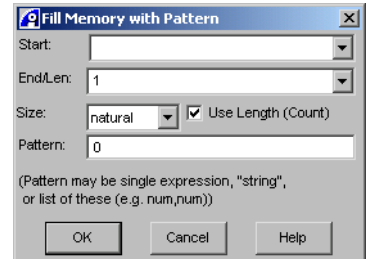

Figure 7-4 Fill Memory with Pattern dialog box
8. Select **Debug → Memory/Register Operations → Fill Memory with Pattern...** from the Code window main menu to display the Fill Memory with Pattern dialog box, shown in Figure 7-4.